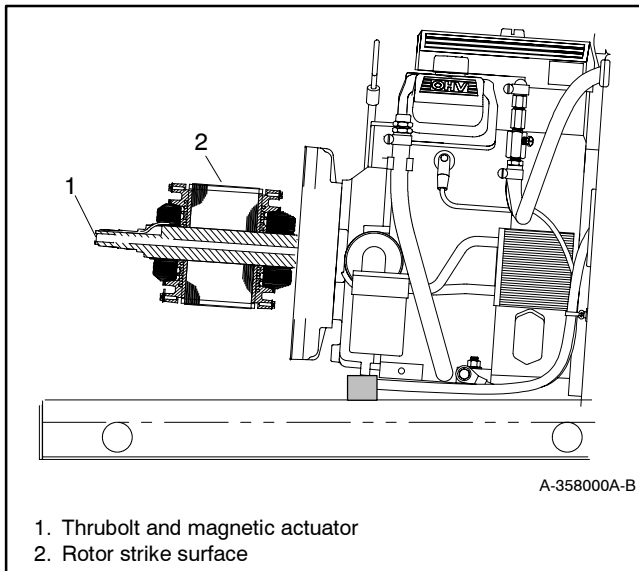

Figure 8-9 Rotor, Side View
- b. Loosen and remove the thrubolt. Use a strap wrench on the rotor to keep the rotor from turning during loosening, if necessary. See Figure 8-9.
c. Remove the rotor assembly by striking the side of the rotor repeatedly with a soft-faced hammer to loosen it from the tapered crankshaft fitting. See Figure 8-9. Rotate the rotor and strike it on alternate sides. Set the rotor assembly aside.
2. Install the rotor. See Figure 8-9.